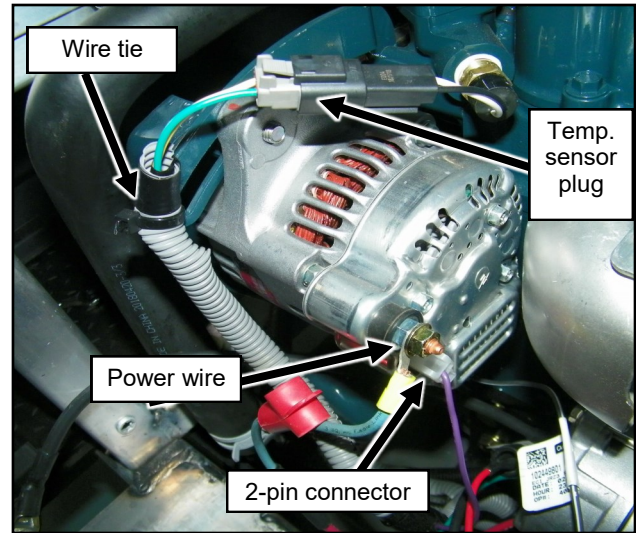

Fig. 1.6 (Disconnect alternator)
- 1.6 Disconnect the power wire and the white 2-pin connector from the factory Alternator. See Figure 1.6.